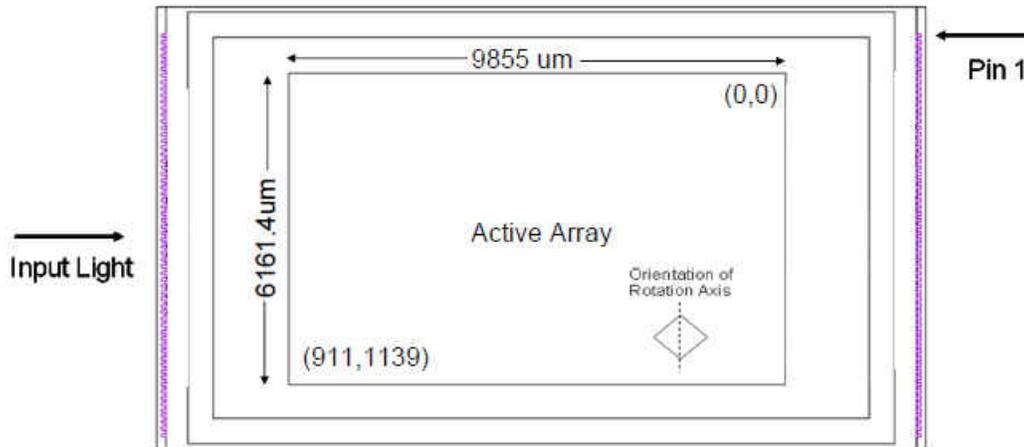

图 7-4. DLP4500NIR Micromirror Active Area
- (1) The mirrors that form the array border are hard-wired to tilt in the  $-12^\circ$  ("Off") direction once power is applied to the DMD (see Micromirror Array, Pitch, and Hinge-Axis Orientation and Micromirror Landed Positions and Light Paths).
- (2) See Micromirror Array, Pitch, and Hinge-Axis Orientation.
- (3) See Micromirror Active Area in Fig 7-4.